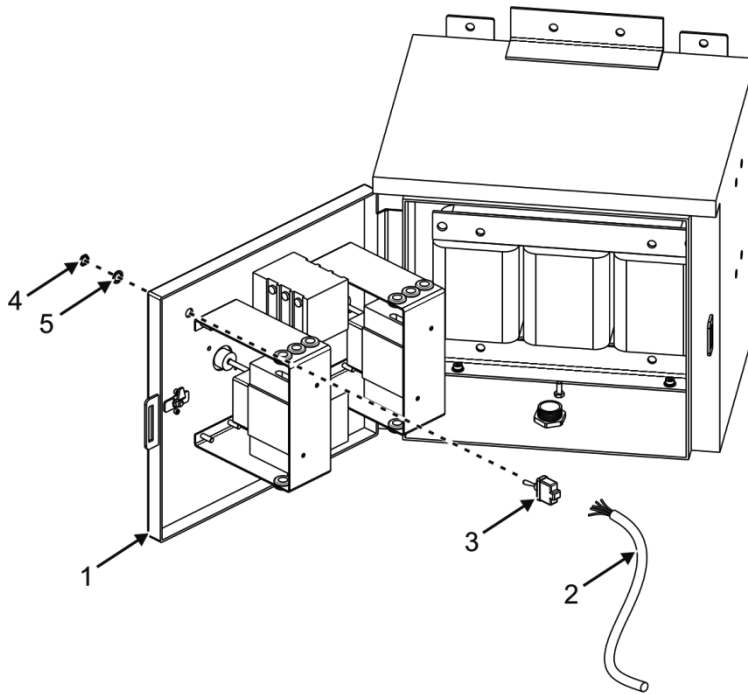
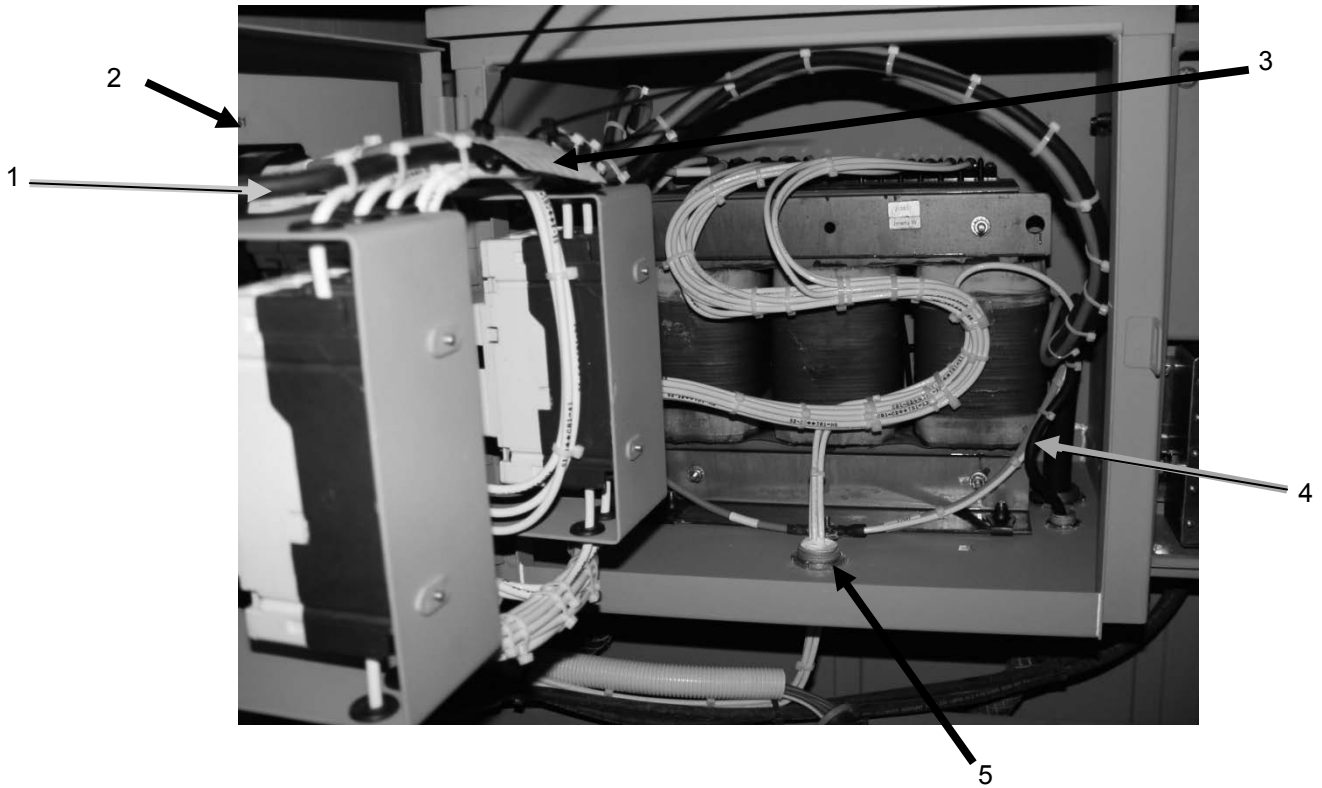

Figure 10. S7 Toggle Switch Removal.
Figure 11. J-11 Cable Removal.
- (16) On the power box door (Figure 10, Item 1), tag and disconnect wiring (Figure 10, Item 2) to toggle switch (Figure 10, Item 3).
- (17) Remove nut (Figure 10, Item 4) and washer (Figure 10, Item 5) securing toggle switch (Figure 10, Item 3) to power box door (Figure 10, Item 1).
- (18) Remove toggle switch (Figure 10, Item 3).
- (19) Plug hole in power box with 9688K125 plug. Discard switch.
- (20) Cut and discard J11 cable (Figure 11, Item 1) near the wire tie closest to the switch (Figure 11, Item 2). Cut other end of cable near wire tie closest to the bottom of the box (Figure 11, Item 4). Pull remaining J11 cable from strain relief at bottom of power box. Remove strain relief from power box. Discard strain relief, cable, and P11 plug. Attach 182K1670 cable tag (Figure 11, Item 3) using two MS3367-2-9 tie wraps.